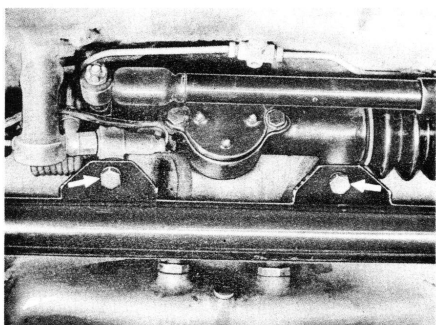

Fig. 71
4. Using new lockwashers, install and torque steering housing retaining bolts to 4,7 mkp (34 lb/ft). See Fig. 71.